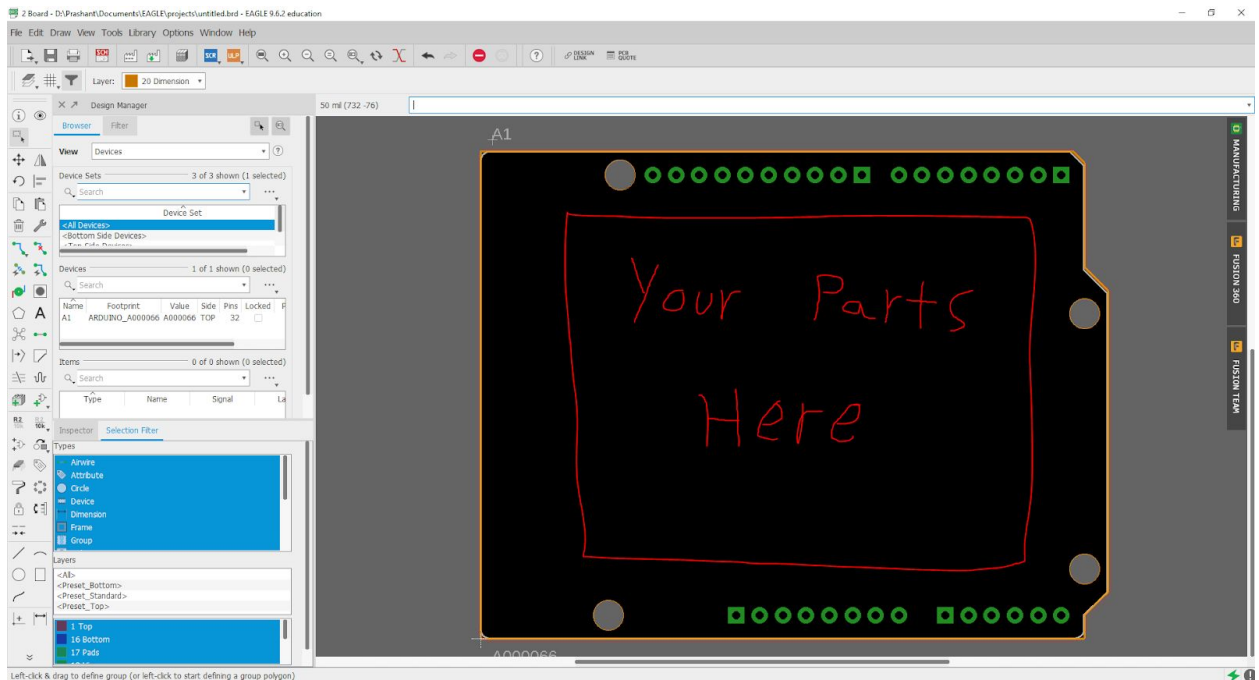

Figure 1.1 Basic layout of a Arduino shield
- Create an Eagle CAD board layout of the motor driver circuit (Your board should look similar to the Figure 1.1)